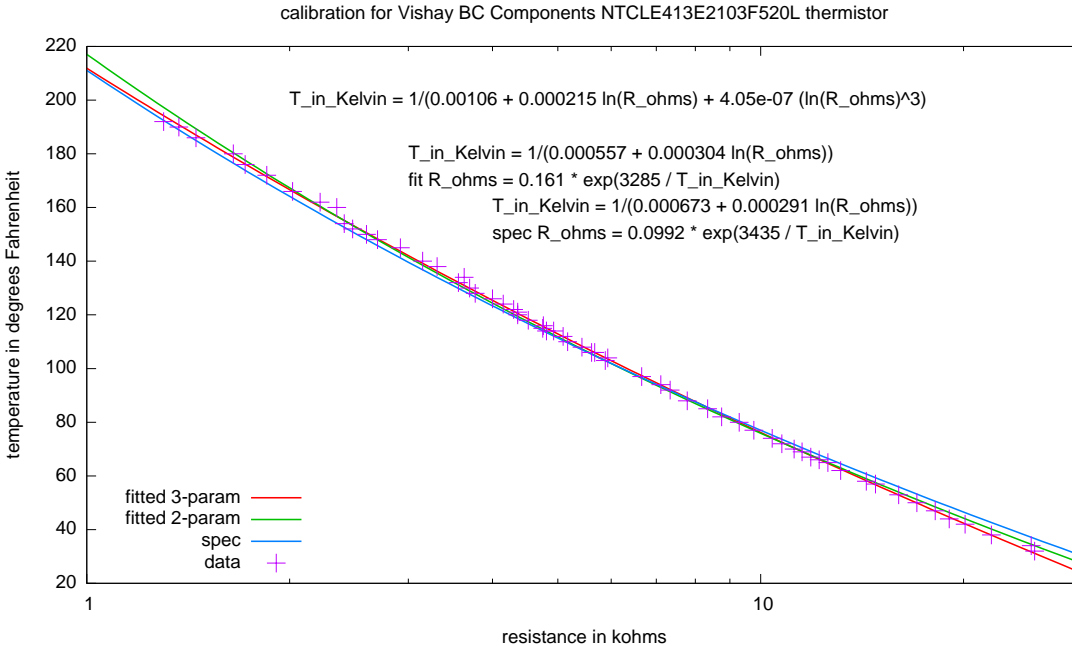

Figure 4: Plot produced from measurements with a Fahrenheit thermometer. Your plot should use Celsius measurements.
Because this is the first time most of you have used gnuplot, we'll spend Wednesday's lecture developing a gnuplot script to produce plots like the the one in Figure 4, which fits the Steinhart-Hart model and a simpler 2-parameter model to the data. Bring a computer with gnuplot installed and your data already in a computer file to Wednesday's class, so that you can work along with the class discussion.
- A plot of measurements made and any modeling done (for example, the temperature vs. resistance calibration curve in Figure 4). The plot should use the units measured ( $\Omega$  or  $k\Omega$  and °C, for example).